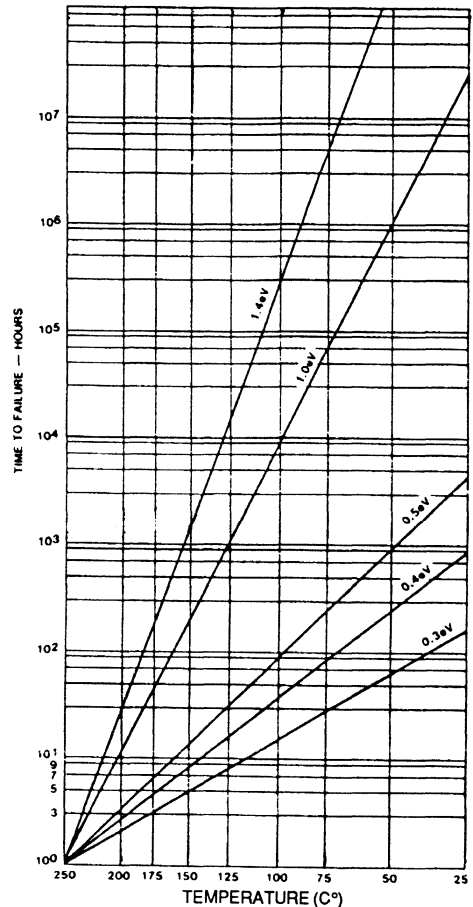

Figure 9. Arrhenius Plot
Since the failure mechanisms observed in semiconductor devices can always be related to a physical reaction (eg: electromigration), it is possible to accelerate the onset of such a failure, by conducting life tests at an elevated temperature. Assuming E_a is a constant, a plot of $\log R$ against $1/T$ results in a straight line with slope equal to E_a . E_a may be interpreted as the energy threshold of a particular failure mechanism. It is more convenient to plot the device life time (in-hours) against the operating die temperature (in $^\circ\text{C}$), as shown in Figure 9, for various activation energies. Using
- f. Extrapolate the failure rate (or mean life time) at normal operating temperature using the standard chart of Figure 9, using the lowest activation energy obtained in (c.).
Example: Let us try to predict the failure rate at 100°C for the IC type which showed a failure rate of 2.02% per 1000 hours at 150°C in the earlier example. Let us assume an activation energy of 1.4eV. From the Arrhenius Plot of Figure 9, the acceleration factor between 100°C and 150°C for 1.4eV is: